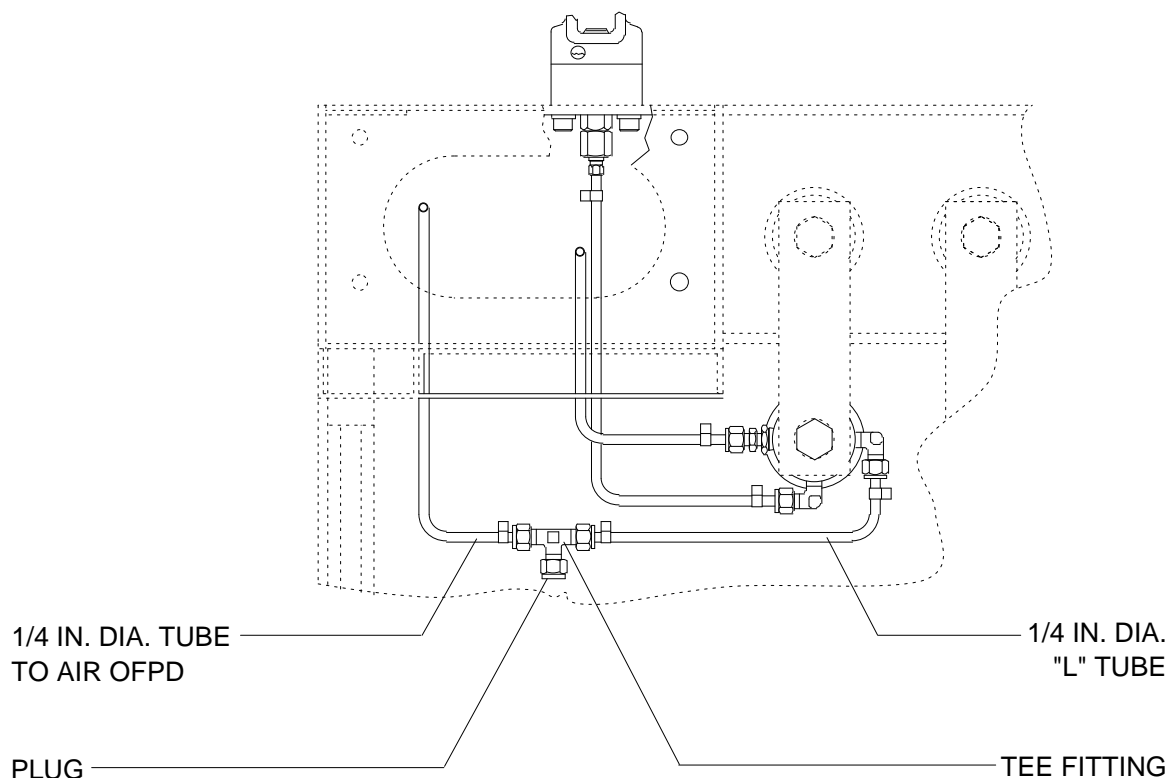

Figure 8: AIR CYLINDER REGULATOR L.P. CONNECTIONS
46. Connect a ¼ in.dia.(P/N 4110837-015) "L" tube to the air cylinder pressure regulator as shown in Figure 8. Install a "AIR" label on each end of this tube.
48. Connect the short end of a ¼ in.dia. (P/N 4109512) pre-bent tube to the remaining port on the tee fitting as shown in Figure 8. Install a "AIR" label on each end of this tube.